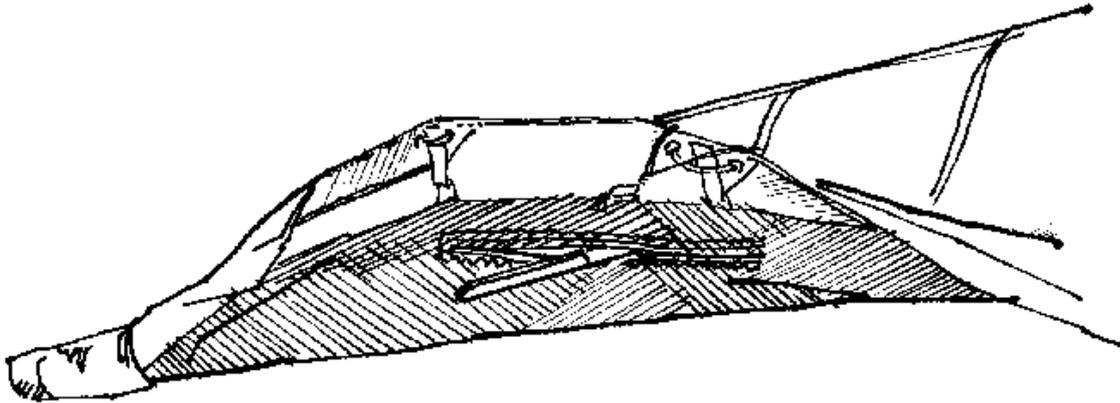

Fig. 5
2.2.3. Install the small mast on the LE-tubes/X-beam junction to it's proper place. Dive sticks must be outside of the sail. (Fig. 5).